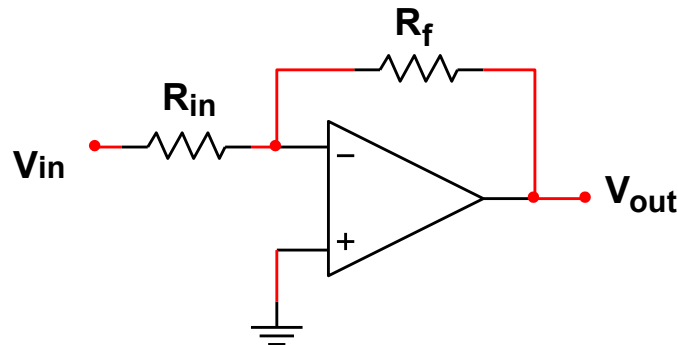

Figure P.1 – Inverting Amplifier
- Using **Table 1** and **Figure P.1**, design an **DC Inverting Amplifier** that has the following specifications:
- Closed Loop Voltage Gain (K) = -10**